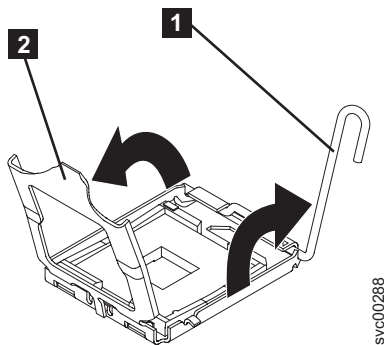

Figure 184. The microprocessor release lever and bracket frame fully opened
4. Open the microprocessor release lever (**1** in Figure 184) to the fully open position.
5. Open the microprocessor bracket frame (**2** in Figure 184).